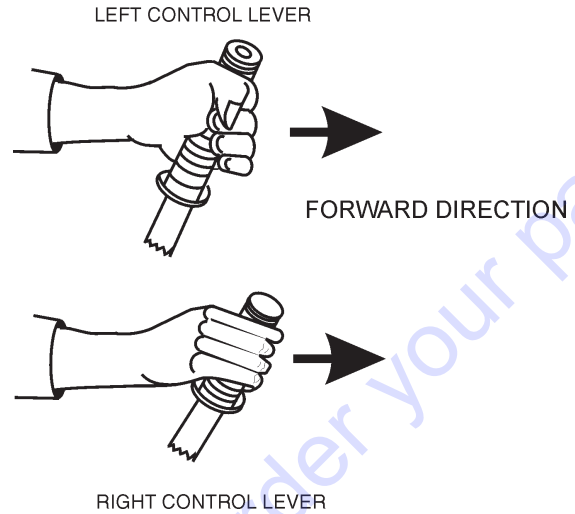

Figure 9. Left and Right Control Levers
2. Push both the left and right control levers forward. See Figure 9.